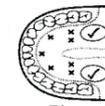

Figure 2
- a) **Oral Use:** Place thermometer under tongue as indicated by "✓" position shown in Figure 2. Close your mouth and breathe evenly through the nose to prevent the measurement from being influenced by inhaled/exhaled air. Normal temperature between 35.7°C and 37.3°C (96.3°F and 99.1°F).